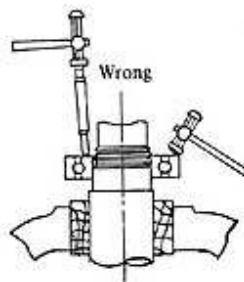
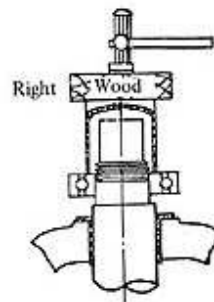

Figure 18
Figure 19
- e. After contraction fitting, it should be pressed or hammered to make it in tight contact with the endface of bush. When pressed or hammered, the force must be directed to and evenly distributed on the inner ring as indicated in figure 19. Figure 18 shows the wrongful practice which is absolutely prohibited.